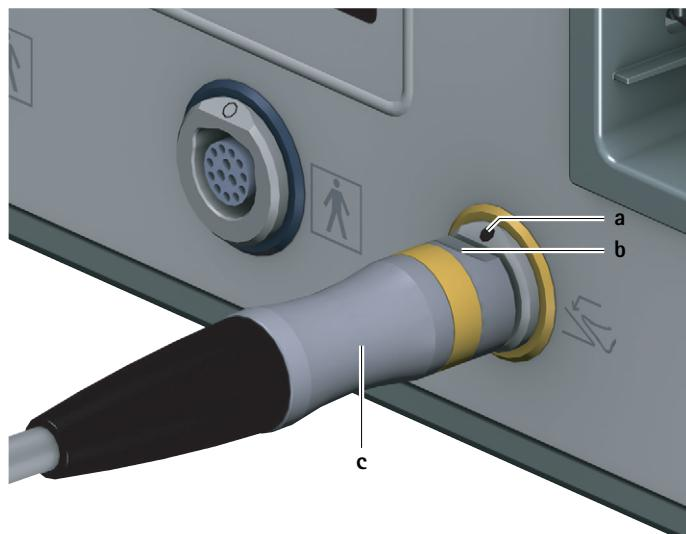

Fig. 2 Connecting the foot control
- Position connector of foot control c so that marking b on the connector is aligned with marking a on the connection socket for foot control 6, see Fig. 2.
- ▶ Unplug connector for foot control **c** from the connection socket for foot control **6**, see Fig. 2.